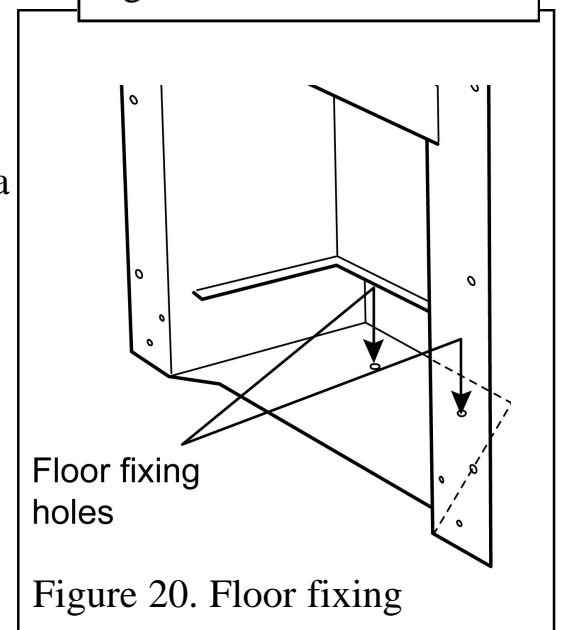

Figure 20. Floor fixing
8. Drill a hole into the fireplace floor through each of the two holes in the base of the convection box using a no.12 masonry drill (See figure 20).